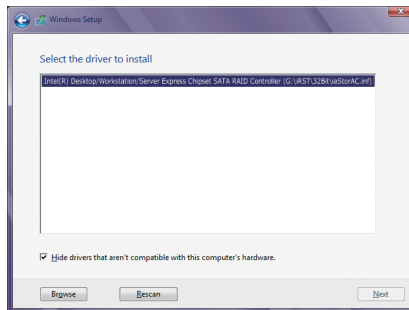

Figure 1
When a screen as shown in Figure 1 appears, select **Intel(R) Desktop/Workstation/Server Express Chipset SATA RAID Controller (G:\IRST\32Bit\SetupAC.inf)** and click **Next** to load the driver and continue the OS installation